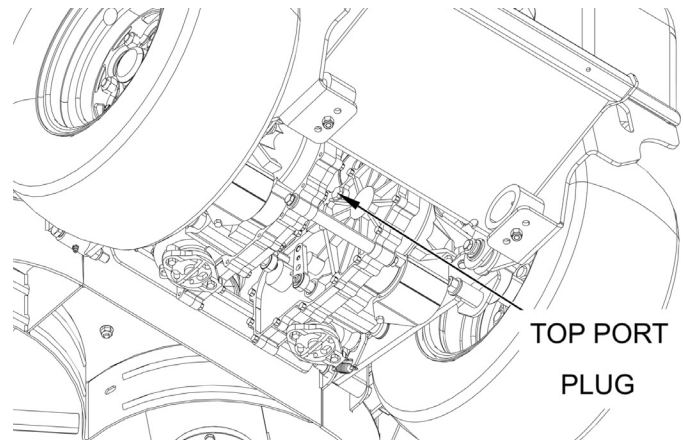

Figure 7-3. Top Port Plug Location
9. Remove the side top port plug from both transaxles before filling with fresh oil. See Figure 7-3.
22. After the purge procedure is complete, remove the side top port plug from both transaxles. See Figure 7-3.